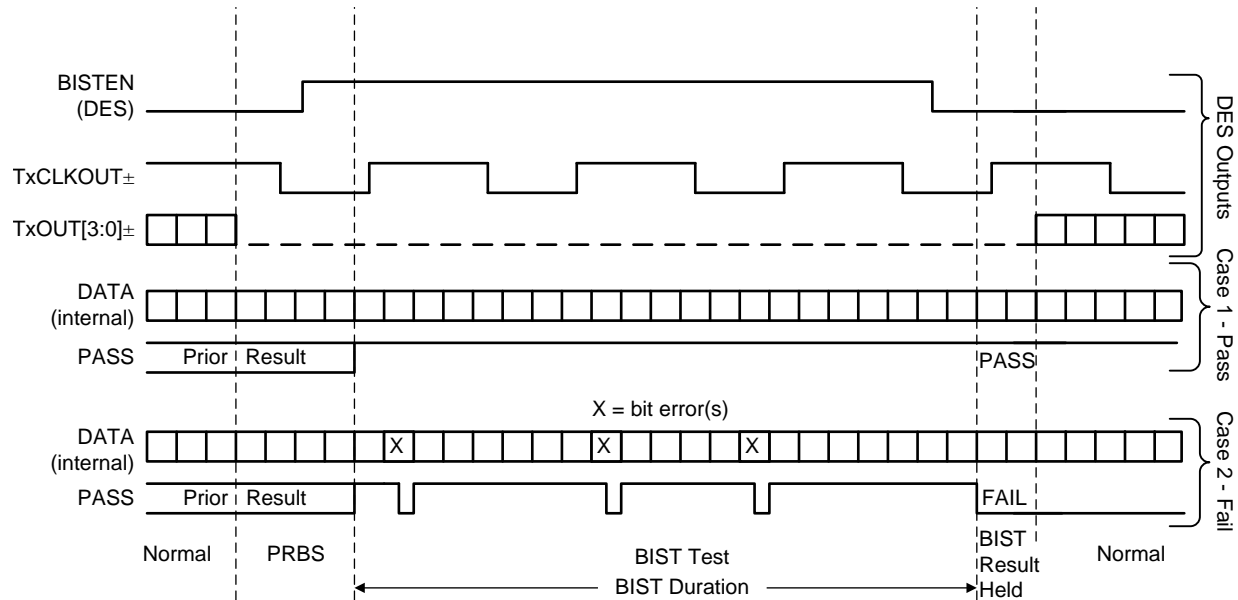

Figure 19. BIST Waveforms in Conjunction With Deserializer Signals
Step 4: The link returns to normal operation after the deserializer BISTEN pin is low. Figure 19 shows the waveform diagram of a typical BIST test for two cases: Case 1 is error-free, and Case 2 shows the link with multiple errors. In most cases, it is difficult to generate errors due to the robustness of the link (differential data transmission and so forth), thus they may be introduced by greatly extending the cable length, faulting the interconnect medium, or reducing signal condition enhancements (Rx Equalization).